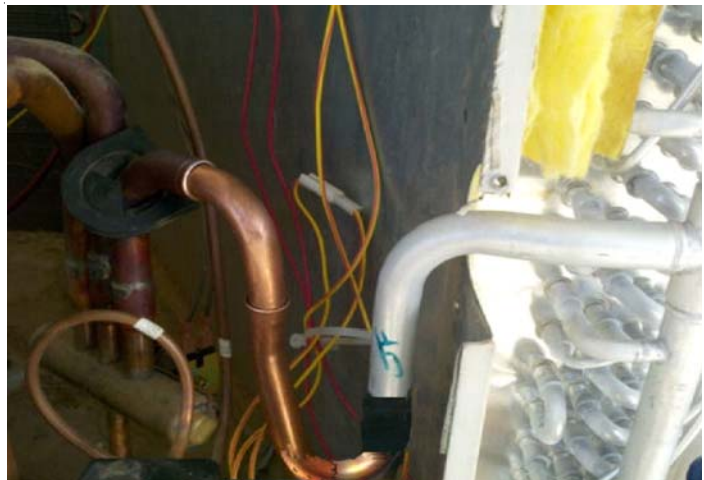

Figure 5
- 7. Once the new aluminum evaporator coil is installed, use a swaging tool or couplings and reinsert the tubing. Make sure to turn it to the desired position needed to reconnect it as shown in Figure 5. Take care not to kink the tubing.